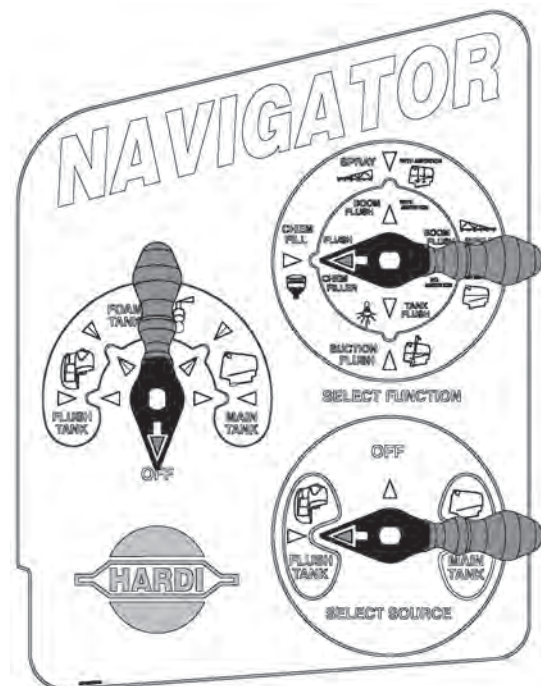

Fig 39
- 6 After adding the required chemicals, you can flush the GRANNI POT hopper with clean water. Align the SOURCE handle to FLUSH TANK, (See Fig 39).